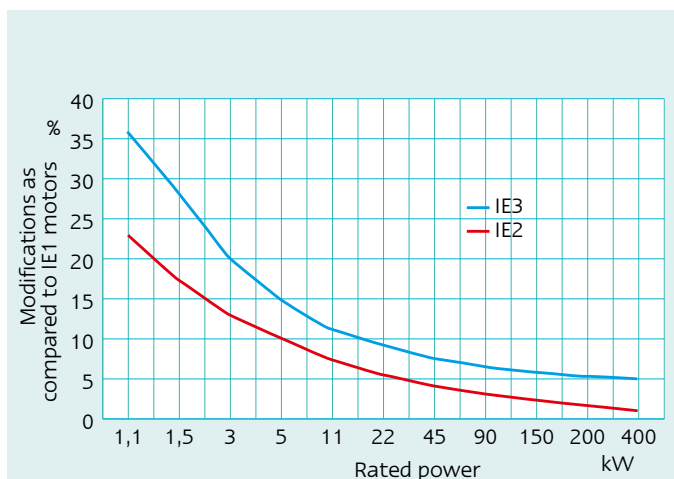

Figure 2: Change of starting current ratio
- Starting current ratio  $I_a/I_n$  (starting current/rated current) higher than that of IE1 motors: increase by up to 35 % for small motors (< 3 kW), by at least 3 % to 15 % for medium sized motors and by less than 7 % for motors of 75 kW and above (values taken from Figure 2)